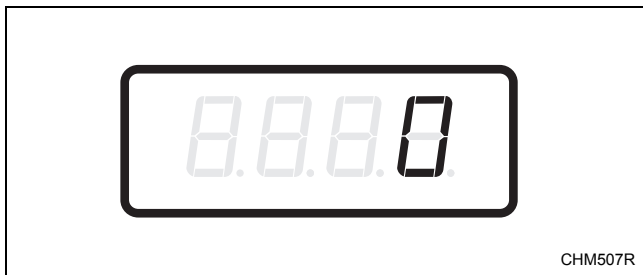

Figure 12
4. When “PLSE” appears in the display, press the START (enter) keypad. There are five digits in the Start Pulse Value. The fifth digit will appear in the display and will flash one (1) second on and one (1) second off. Refer to *Figure 12*.